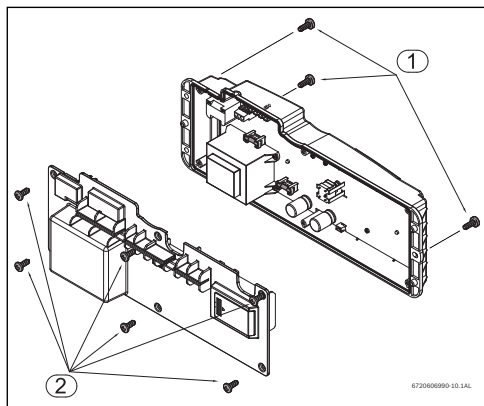

Fig. 8
- ▶ Remove the three screws from the control unit (Fig. 8, [1]).
- ▶ Remove the 6 screws from the back cover of the control unit, to access the electronic board (PCB) (Fig. 8, [2]).